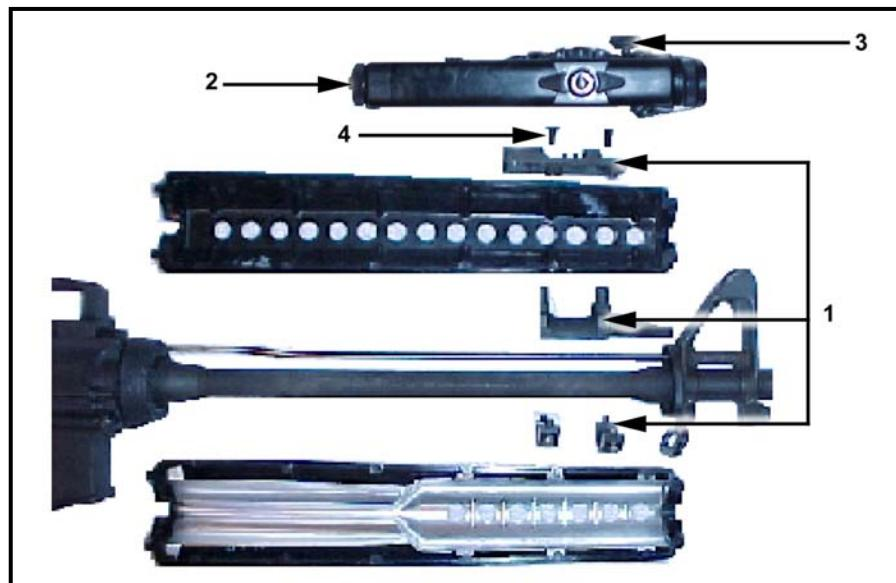

Figure 2-31. Mounting the AN/PEQ-2A to the M16A1/A2/A3 rifle and M4 carbine.
- a. **M16A1/A2/A3 Rifle and M4 Carbine** (Figure 2-31). The armorer must install the bracket assembly (1). The AN/PEQ-2A (2) thumbscrew (3) is then aligned with the hole in the mounting rail (4) nearest the muzzle and tool tightened. The remote switch should be attached to the weapon where it is most convenient for the firer without interfering with the functioning of the weapon or hindering the firer's ability to fire the weapon. Retightening of the rail grabber and thumbscrew is recommended after a few rounds have been fired to ensure zero retention.